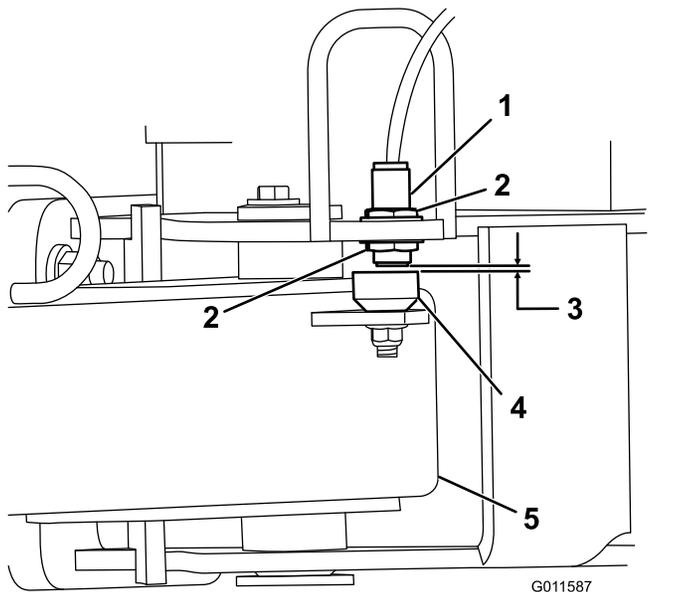

**Figure 3**
1. Insert the rear end of the hitch tongue between the mounting plates on the machine while aligning the mounting holes (Figure 3).
2. Insert the hitch pin through the mounting plates and the hitch tongue (Figure 3).
3. Secure the top of the hitch pin to the mounting plate with a bolt (3/8 x 1-1/4 inch) and a locknut (3/8 inch) as shown in Figure 3.
4. Secure the bottom of the hitch pin with a large washer and a large nut (Figure 3).